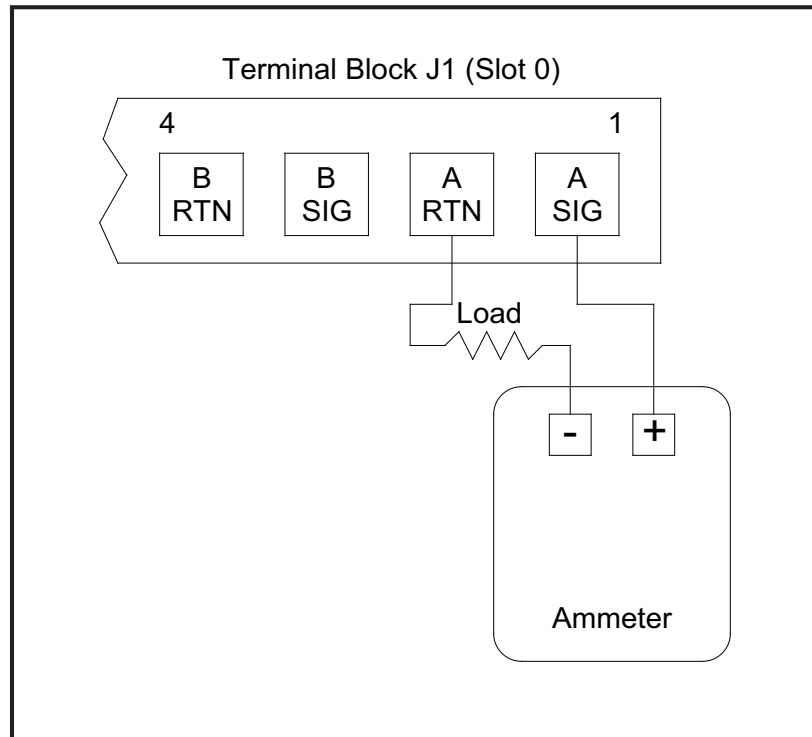

Figure 1: Ammeter Connection (Output A)
Prepare for calibration by inserting an ammeter in series with the load on the desired output. Refer to Figure 1 and Figure 4 on page 12 to identify the OUT(+) and RTN(-) pins for the desired output.
**IMPORTANT:** *The procedure for calibrating Output B is identical to that for calibrating Output A. However, when calibrating Output B, be sure to reconnect the ammeter on terminal block J1. See Figure 1 on page 2 for the correct pin numbers.*